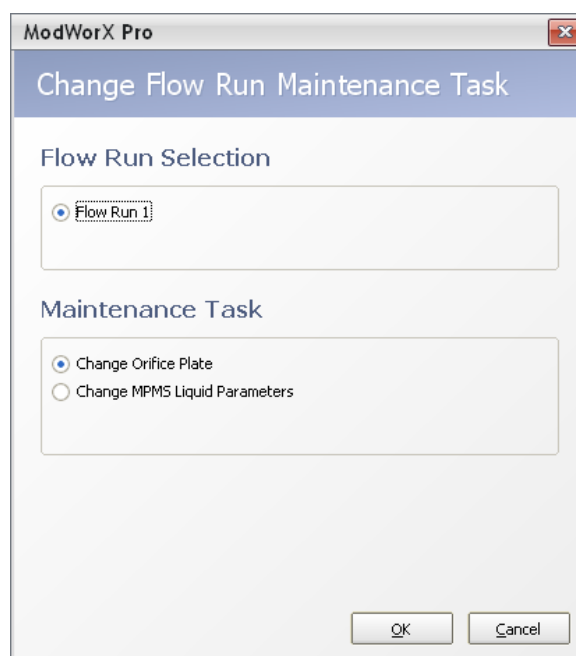

Figure 9.12
1. If Change MPMS Liquid Parameters is not displayed in the Maintenance Task field at the top of the Maintain Flow Run screen, click on **Change Task**. The Change Flow Run Maintenance Task dialog will appear (Figure 9.12).